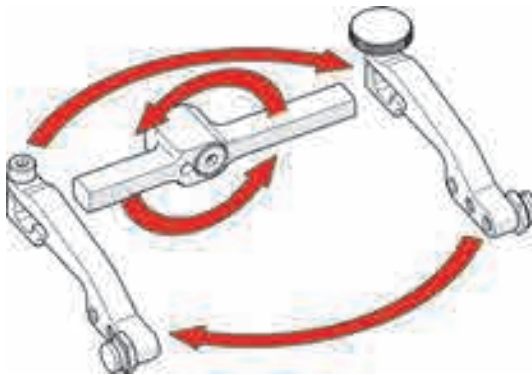

Figure 4-68 Flip yoke and reverse arms
4. Flip the yoke 180° and reverse the probe holder arms (see Figure 4-68 on page 145).